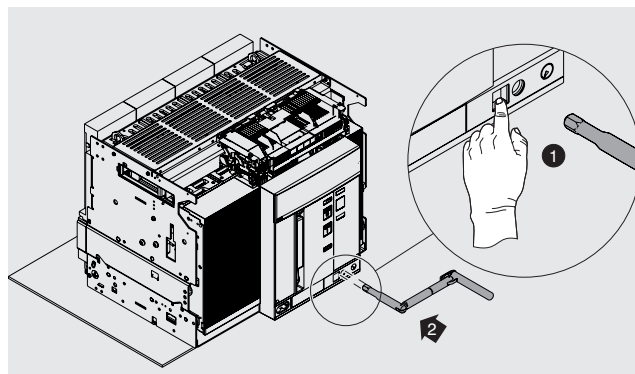

Figure 44
9. Press the lock pushbutton and insert the crank in the moving part. In this phase the moving part is still in **DISCONNECT** position. See Figure 44.